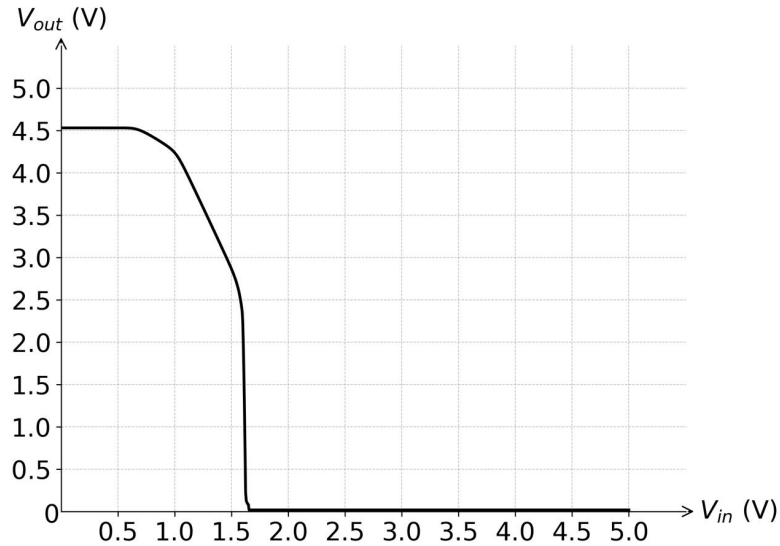

Fig. 4
- 3 (a) The voltage transfer characteristic of an inverter is shown in Fig. 4. The supply voltage V_{DD} is 5 V.
- (ii) Explain whether it is likely that the inverter characterised by Fig. 4 is implemented by the CMOS technology or not. [8%]